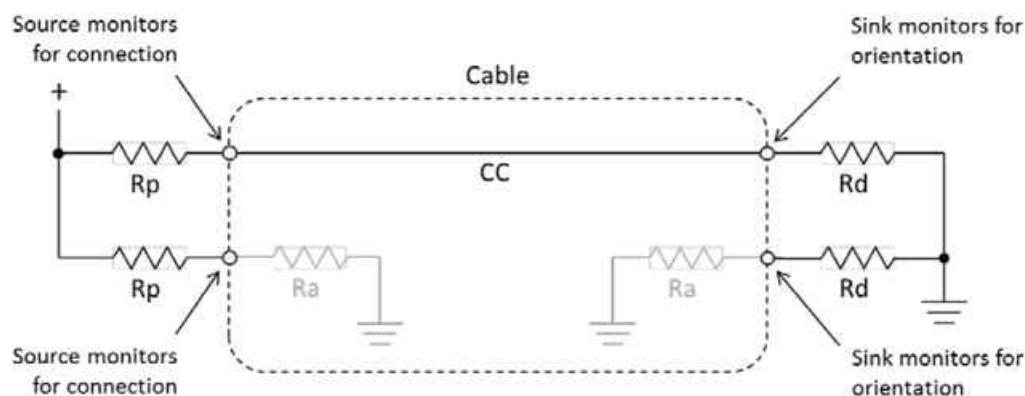

Figure 3. CC logic pullup and pulldown termination. (Source: USB Type-C specification v1.2, Figures 4 and 5 pullup/pulldown CC model)
- **Cable detection** occurs when one of the two CC lines pulls down (see **Figure 3**). A DFP will have both of its CC pins pull up with resistor R_p , and a UFP will have both of its CC pins pull down with resistor R_d [1]. Once a DFP processor detects that one of its CC lines is pulled down, the DFP will know that a connection has been made.
VCONN can power passive electronically marked or active cables (cables that support USB PD communication and provide a method for determining cable characteristics) by switching 5 V onto the unused CC line (see the appendix). **Figure 3** shows that one CC line in the USB Type-C cable connects R_p to R_d , while the other is left floating (a passive cable) or pulled down